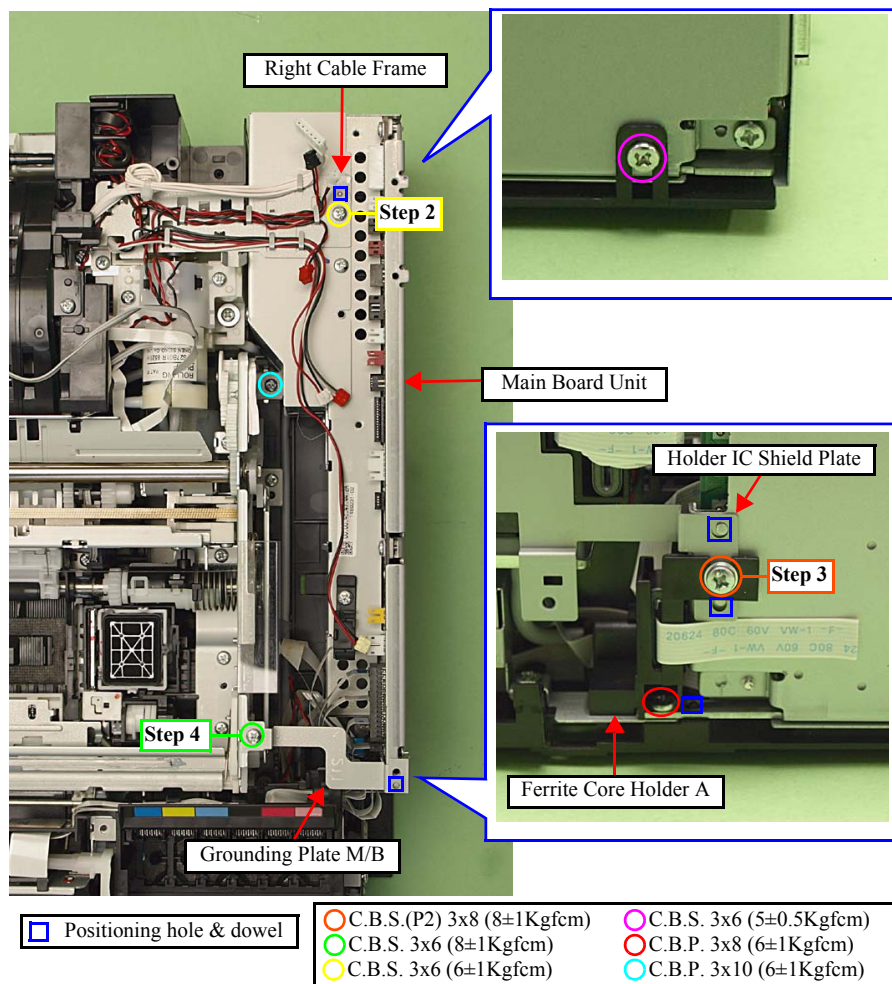
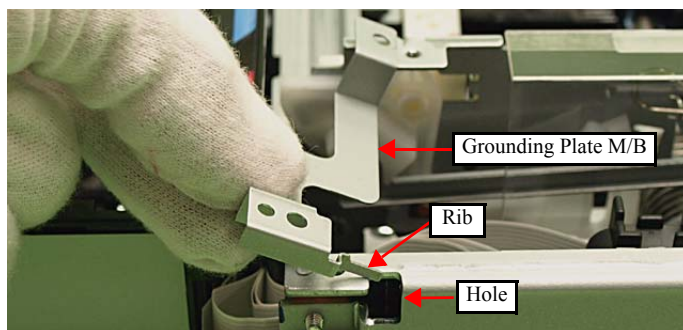

Figure 4-40. Removing the Main Board Unit
Figure 4-46. Attaching the Grounding Plate M/B
- Remove the screw (x1) that secures the Right Cable Frame and the Main Board. (See Fig. 4-40.)
- Remove the screw (x1) that secures the Ferrite Core Holder A, and remove the Ferrite Core Holder A. (See Fig. 4-40.)
- Remove the screw (x1) that secures the Grounding Plate M/B, and remove the Grounding Plate M/B. (See Fig. 4-40.)
- Align the positioning hole (x1) of the Main Board with the dowel (x1) of the Upper Shield Plate M/B. (See Fig. 4-40.)
2. Secure the Ferrite Core Holder A and the Holder IC Shield Plate to the Main Board Unit with the screw. (See Fig. 4-40.)
- Align the dowel (x1) of the Main Board Unit with the positioning hole (x1) of the Right Cable Frame. (See Fig. 4-40.)
- Insert the rib (x1) of the Grounding Plate M/B to the hole of the Main Board Unit, and align the positioning hole (x1) of the Grounding Plate M/B with the dowel (x1) of the Main Board Unit, and attach the Grounding Plate M/B. (See Fig. 4-40, Fig. 4-46.)